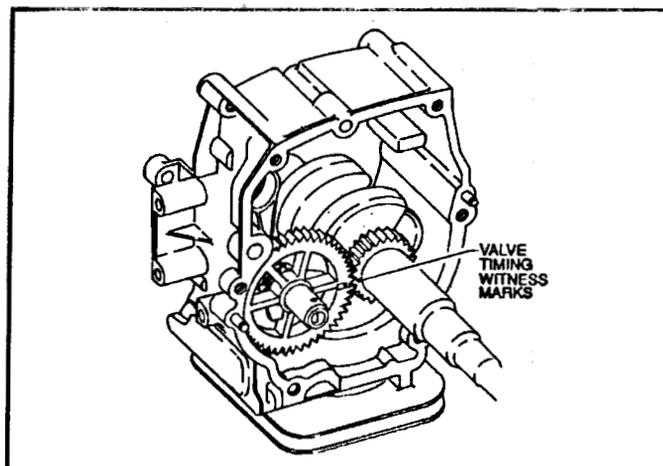

Figure 66
3. Make sure the cam followers are pushed out of the way of the cam lobes and pull the camshaft out of the block. See Figure 66.